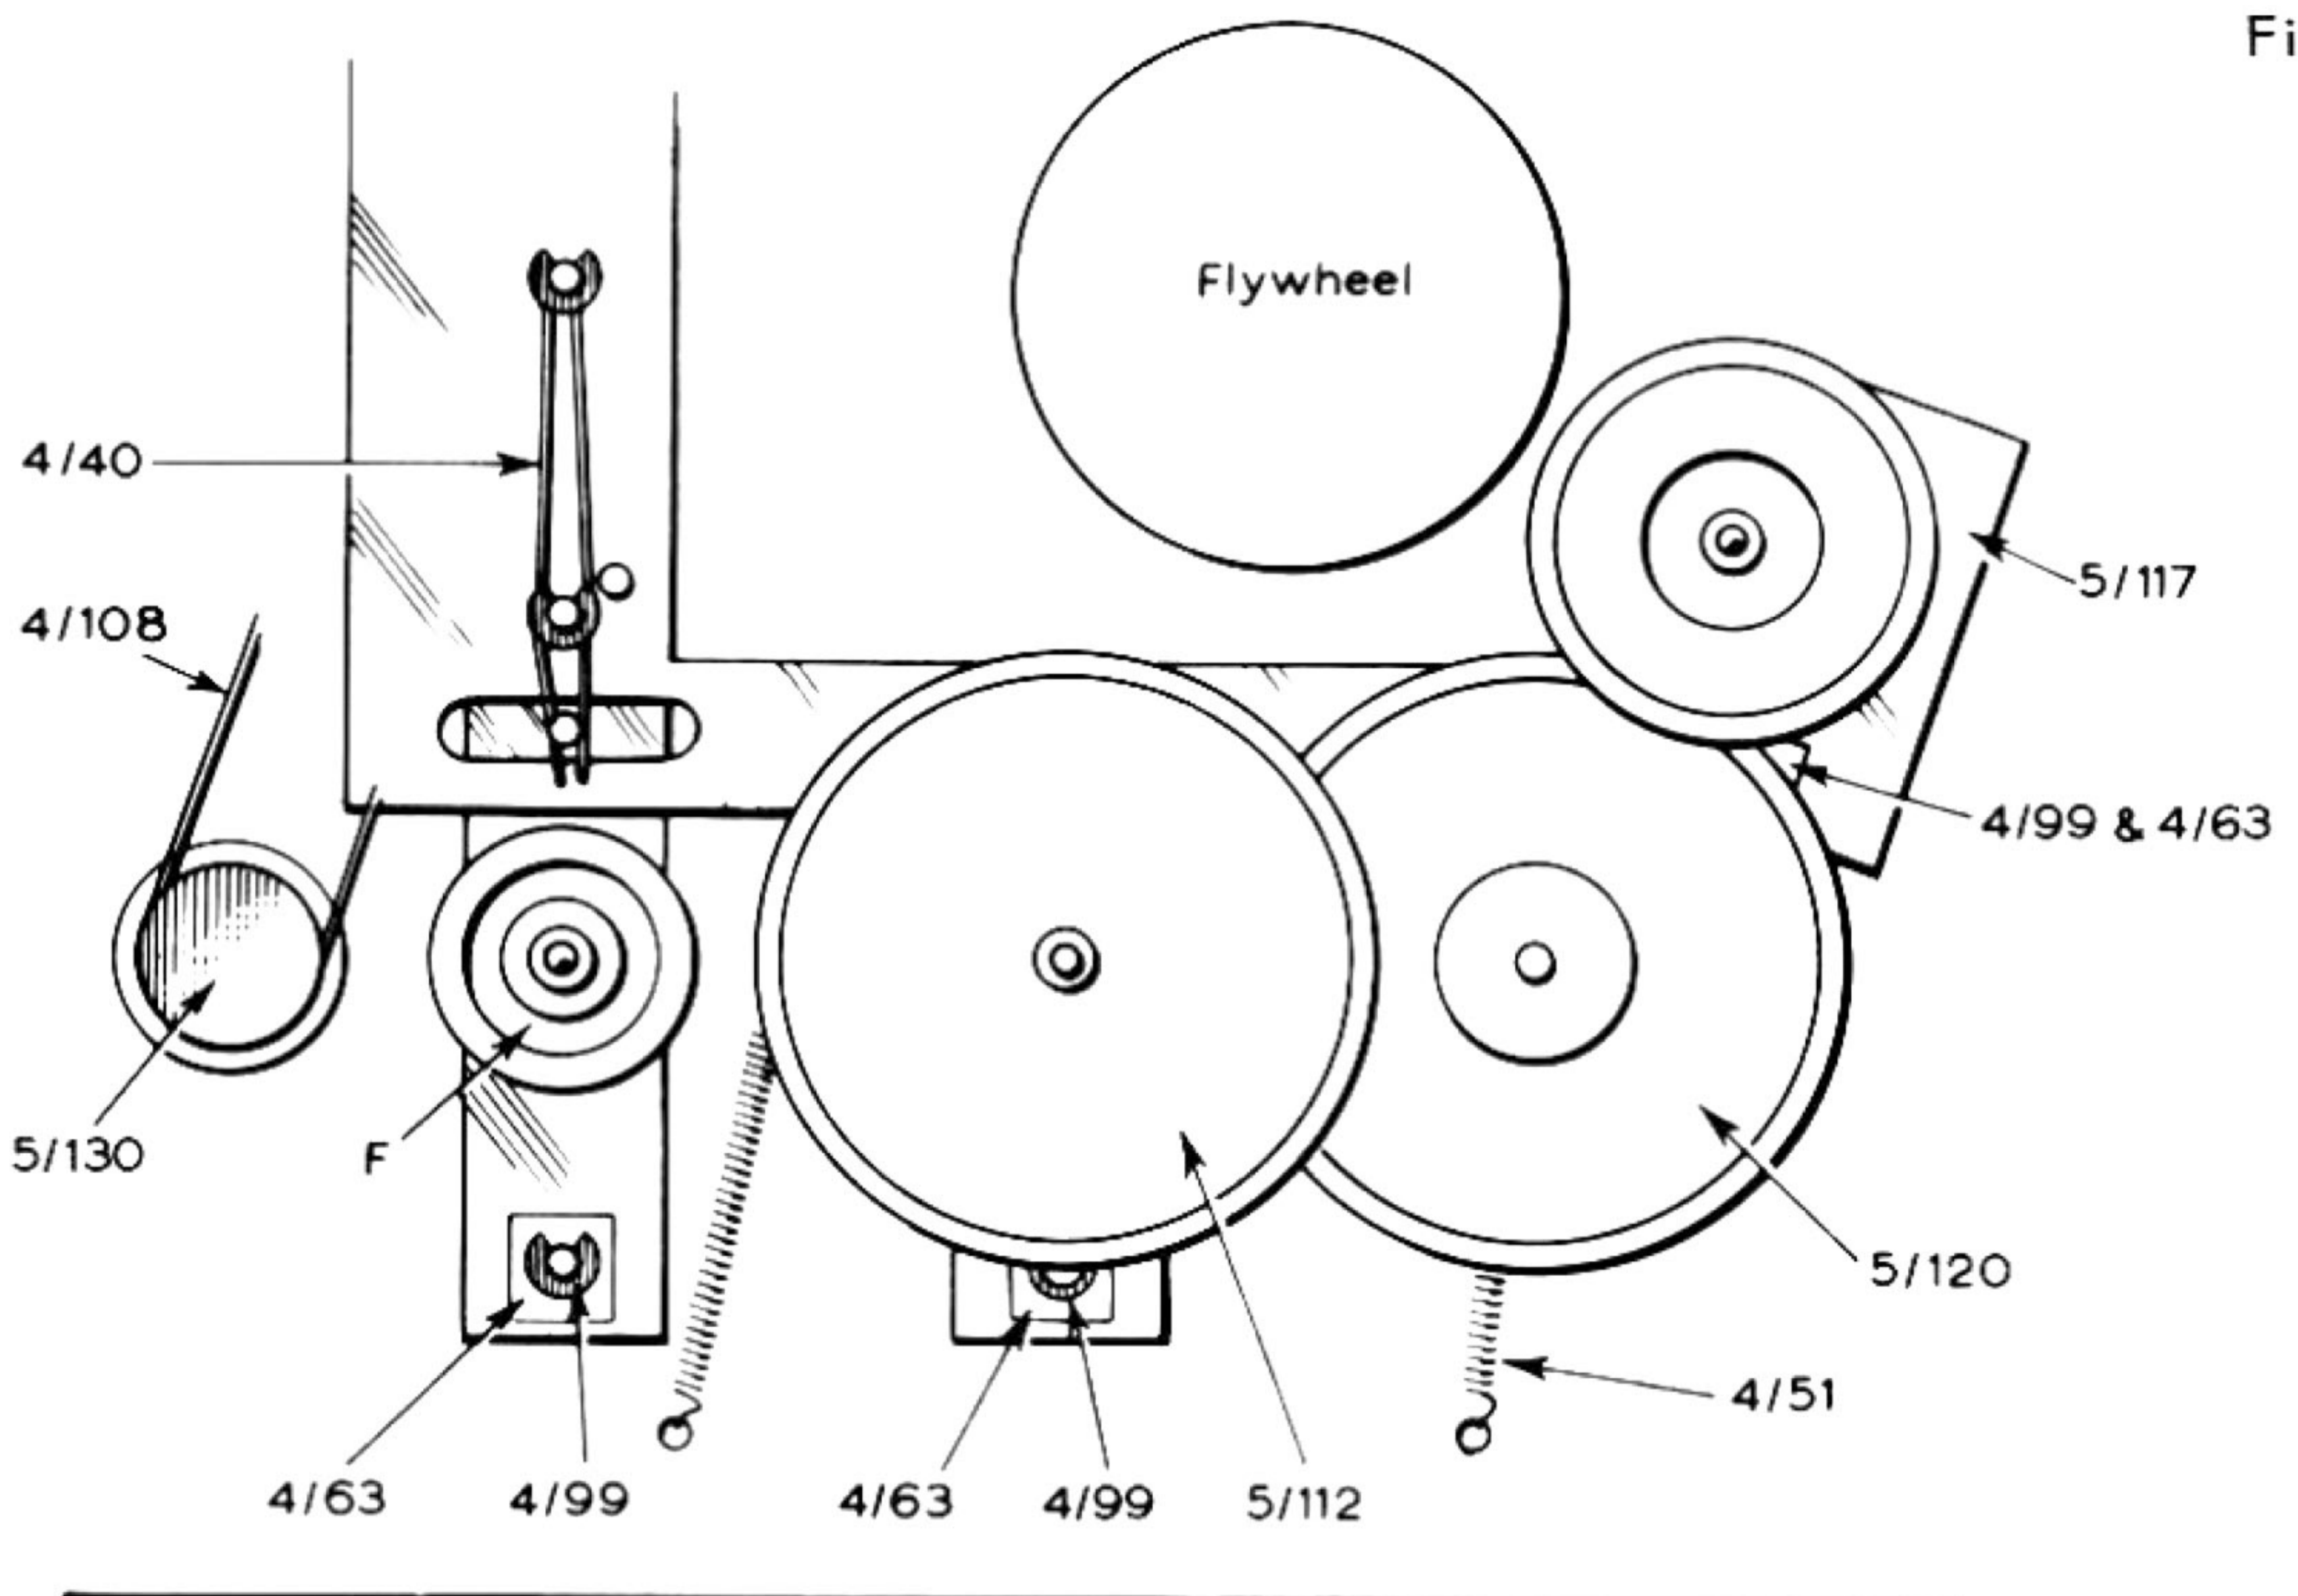

Fig 10.
The auxiliary pulley S plate (F) assembly (Fig. 10) is retained on the main deck with a circlip 4/99, and lightly held down with a shim washer 4/63. The assembly should be completely free to move under the action of the hairpin spring 4/40 which is attached to the cam plate.
The clutch & friction assembly 5/112 is retained on the main deck by a circlip 4/99 & held down very lightly by shim washer 4/63 at one end of the plate (see Fig. 10). The other end fits between the camplate & the main deck. It is essential that this blade has a complete freedom of movement in a plane with the deck. It should be able to move by its own weight for any change of attitude of the machine.
The plate should be completely free to move in the plane of the deck when it is not restrained by its spring 4/51 (see Fig. 10). The fast forward wind 4/51 spring, should pull the plate into a position which engages both flywheel and fed spool disc assembly, when the fast forward button is pressed. Fit a service replacement assembly when required.